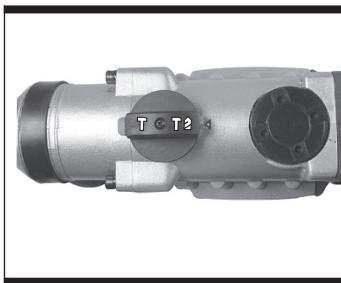

Fig 9
1. Adjust the dial selector to position “ $\text{A} \text{ T}$ ” to provide rotation of the chuck (see Fig9)